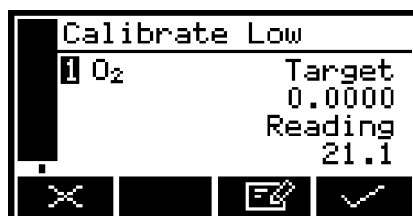

Figure 37 - The calibrate target value screen
3. Press the  soft key. The Calibrate target value screen will then be shown (see Figure 37), identifying the target value and the current reading.